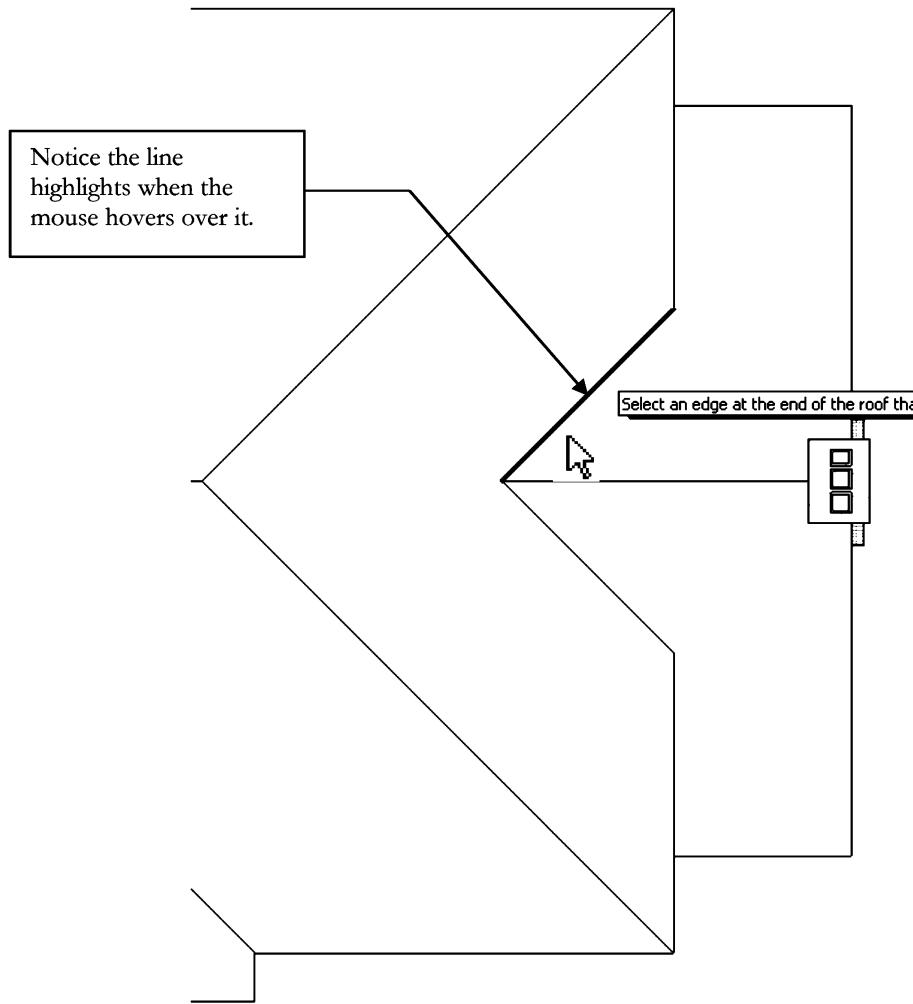

FIGURE 8-3.16 Roof plan; Unjoining the lower roof from the upper roof
43. Select the valley line as shown in **Figure 8-3.16**.